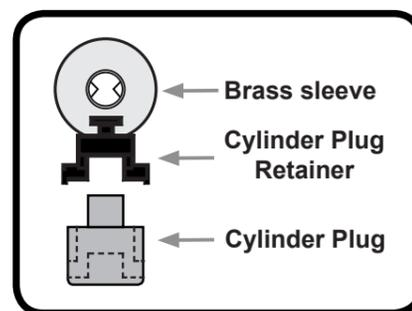

Fig.19
5. When fitting the cylinder plug and retainer to the new cylinder, place the **cylinder plug retainer** in first and rest it on the 2 notches on the **brass sleeve**. When in place, the **cylinder plug** can be pushed into the hole in the brass sleeve as per **Fig.19**.